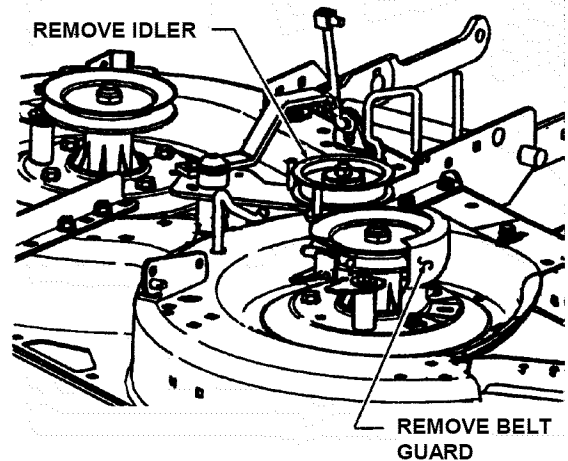

FIGURE 4.39
4. Remove spindle belt guard and tension idler. See Figure 4.39.